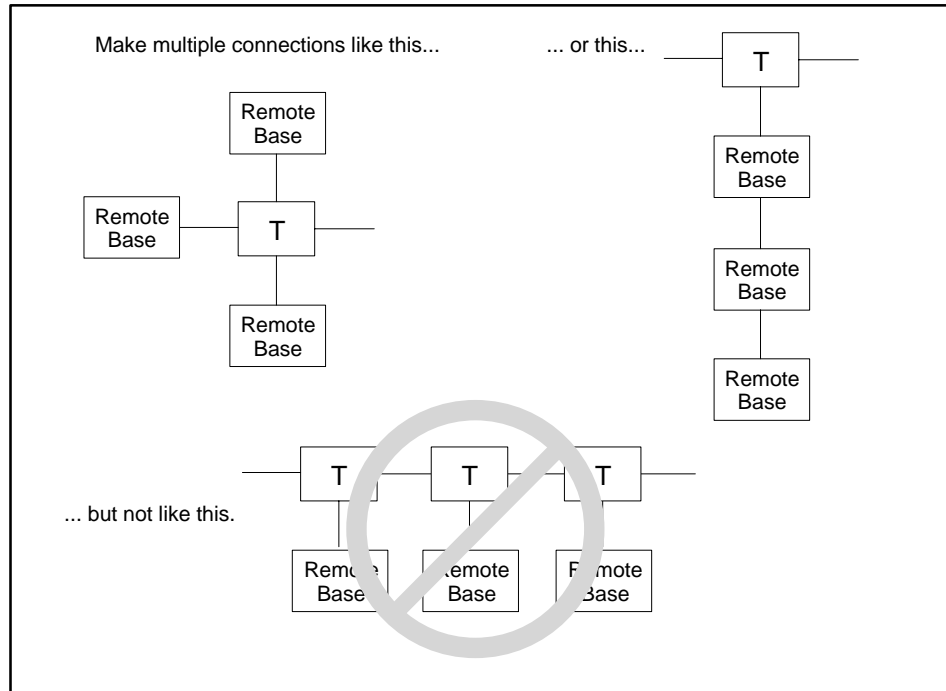

Figure 6-4 Multiple Tap Connections in Close Proximity
- Where several connections need to be made close together, it is better to place a single terminal block in the trunk line and connect all nearby equipment to that terminal block. See Figure 6-4.